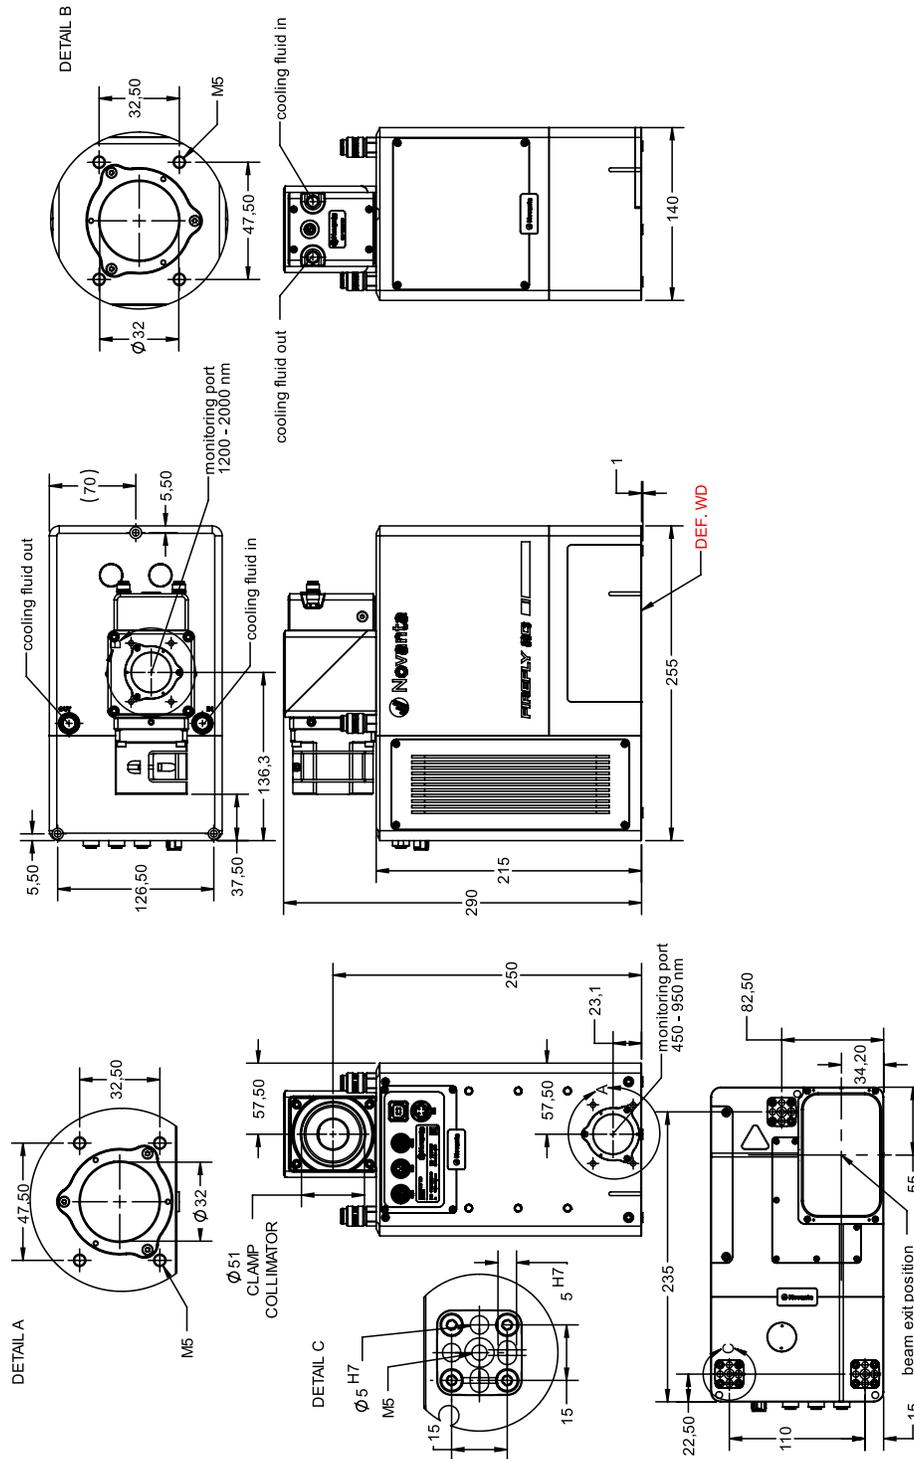

Figure 3: Dimensions in millimeter and mounting for D51 collimator clamp
- Machine bolts suitable for mounting the scan head in the laser unit; see Figure 3 on page 26.
Dimensions with D51 collimator clamp	See Figure 3 on page 26
- To mount the scan head on its place in the laser unit, use the 3-point mounting as indicated in Figure 3 on page 26.